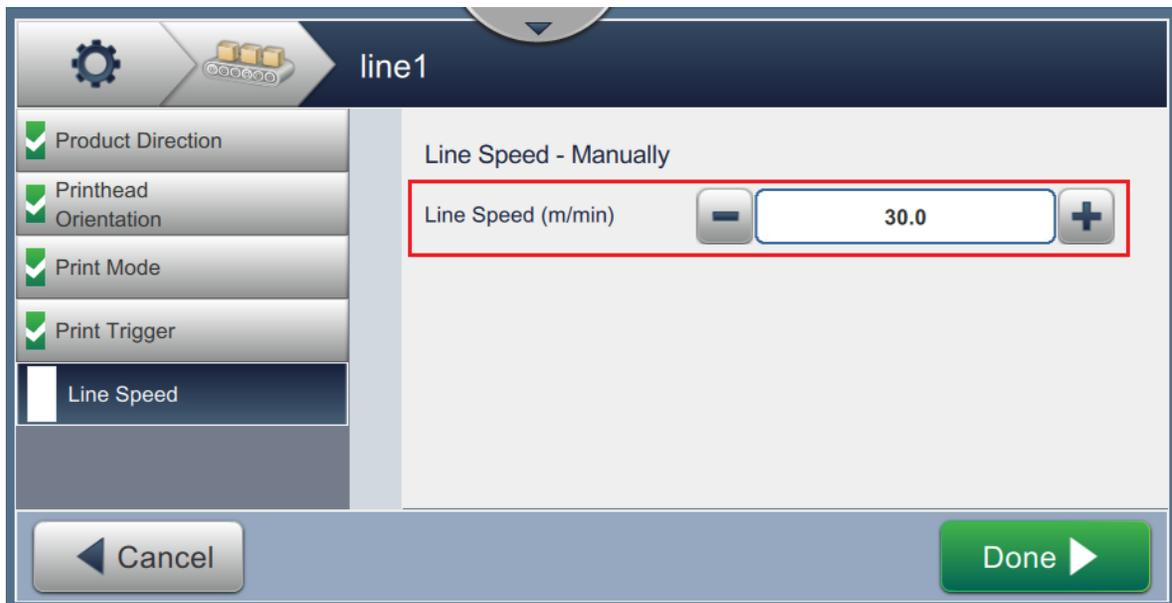

Figure 4-25: Line Speed - Manual
1. Select the Manual Setup option and touch the  button. Enter the line speed in m/min and touch the  button as shown in Figure 4-25.